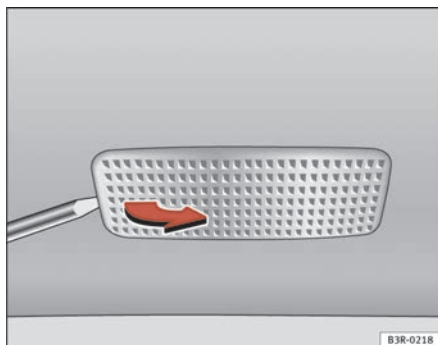

Fig. 223 Removing sunroof light
- Remove the bulb carefully, using the screwdriver on its flat side ⇒ fig. 223.